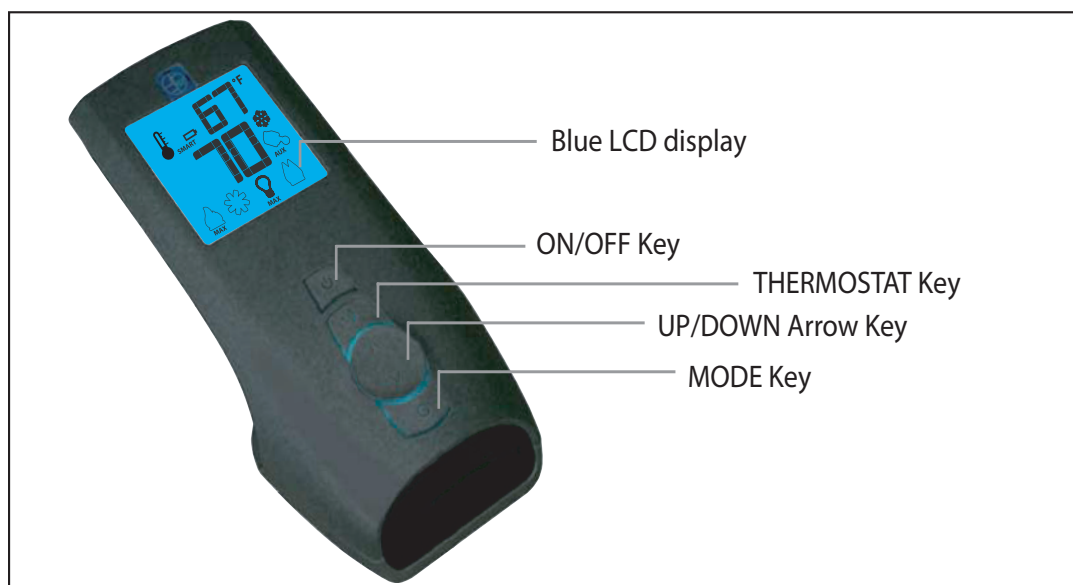
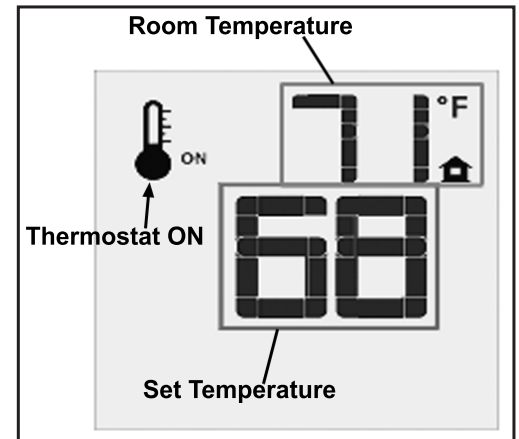
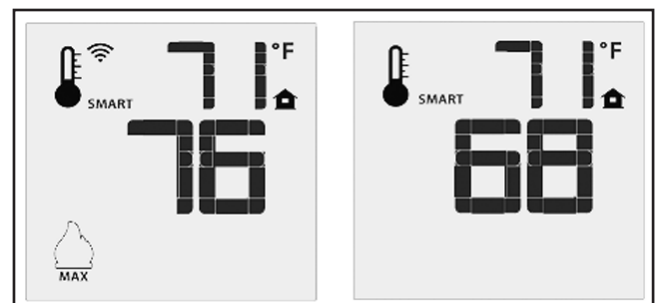
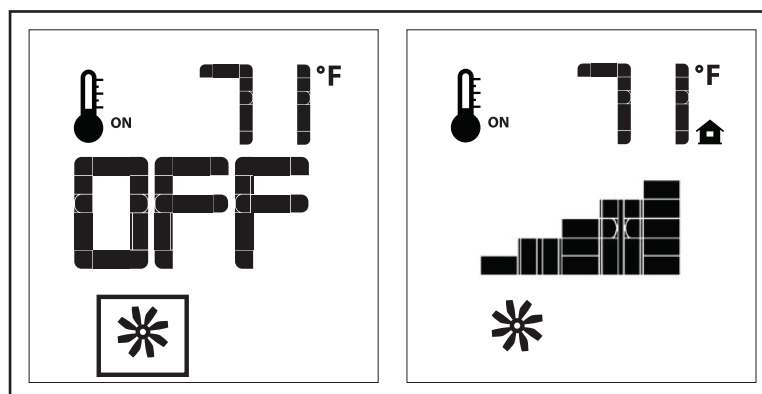

Figure 5: Proflame 2 Transmitter.
Figure 9: Remote Control Displays Set Temperature.
Figure 10: Remote Control's Smart Flame Function.
Figure 12: Fan Control
The Proflame 2 Transmitter is a remote control with a blue backlit lcd display. It uses a streamline design with a simple button layout and informative lcd readout (Figure 5). The Transmitter is powered by three (3) AAA type batteries. A Mode Key is provided to Index between the features and a Thermostat Key is used to turn on/off or index through Thermostat functions (Figure 5 & 6).
Press the ON/OFF Key on the Transmitter. The Transmitter LCD display will only show the room temperature and Icon (see Figure 9). A single “beep” from the IFC confirms reception of the command and both the pilot light (if the unit is not set to continuous pilot) and main burner will turn off.
The Remote Control can operate as a room thermostat. The thermostat can be set to a desired temperature to control the comfort level in a room. To activate this function, press the Thermostat Key (see Figure 5). The LCD display on the Transmitter will change to show that the room thermostat is “ON” and the set temperature is now displayed (see Figure 9). To adjust the set temperature, press the Up or Down Arrow Keys until the desired set temperature is displayed on the LCD screen of the Transmitter.
The Smart Thermostat function adjusts the flame height in accordance to the difference between the set point temperature and the actual room temperatures. As the room temperature gets closer to the set point the Smart Function will modulate the flame down. To activate this function, press the Thermostat Key (Figure 5) until the word “SMART” appears to the right of the temperature bulb graphic (Figure 10). To adjust the set temperature, press the Up or Down Arrow Keys until the desired set temperature is displayed on the LCD screen of the Transmitter.
The NF30GI comes with a convection fan that can be controlled with the Transmitter. The fan speed can be adjusted through six (6) speeds. To control the fan press the MODE key (Figure 5) to index to the fan control icon (Figure 12). Use the UP/DOWN arrow keys to turn on, off, or adjust the fan speed (Figure 12). A single beep from the IFC will confirm the command has been received